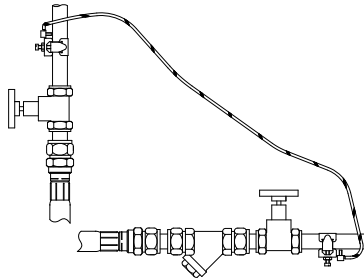

Fig. 16
- 5.15 **Adjacent pipes:** Adjacent suction and delivery pipes should be fitted with earthing clamps in accordance with current regulations (Fig. 16).